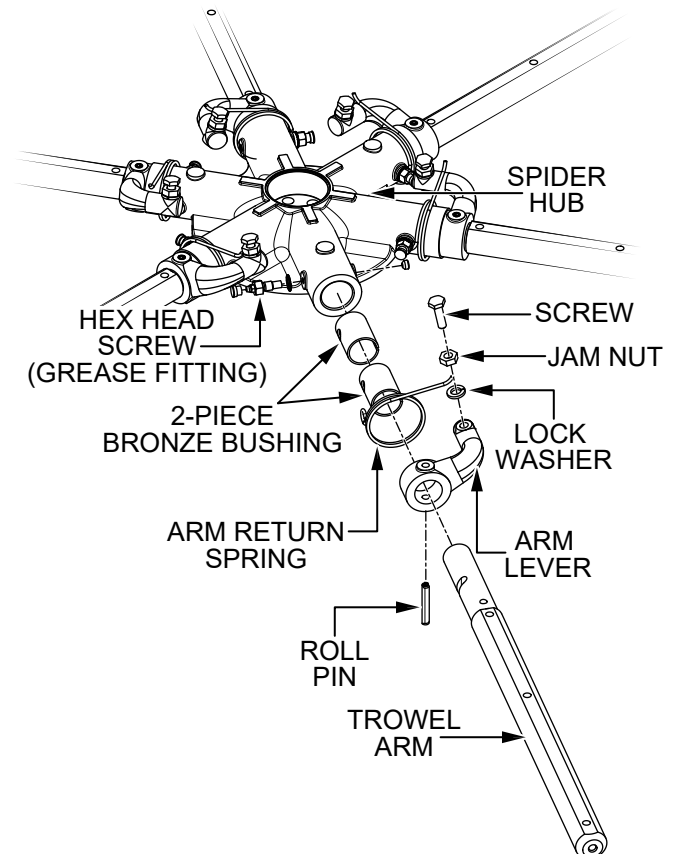

Figure 48. Trowel Arm Removal
- Each **trowel arm** is held in place at the **spider hub** by a hex head screw (Zerk grease fitting). Remove the **hex head screw** (Figure 48) from the spider hub.
3. Remove the **trowel arm** (Figure 48) from the **spider hub**.